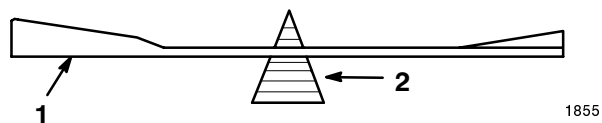

Figure 37
- Check the balance of the blade by putting it on a blade balancer (Fig. 37). If the blade stays in a horizontal position, the blade is balanced and can be used. If the blade is not balanced, file some metal off the back side of the blade. Repeat this procedure until the blade is balanced.